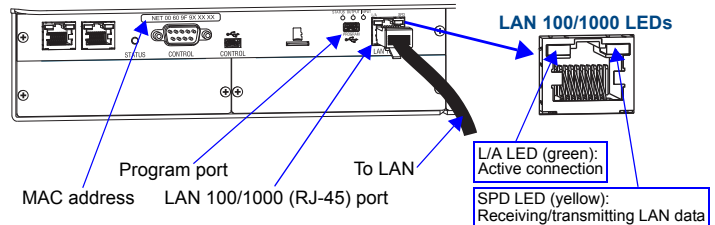

FIG. 5 LAN 100/1000 (RJ-45) port and Indicator LEDs
4. Check indicator LEDs for the LAN 100/1000 port (FIG. 5).